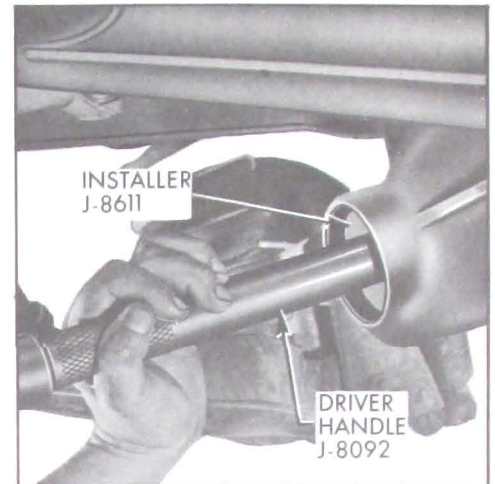

Fig. 6-17—Installing Rear Pinion Bearing Outer Race
1. If rear pinion bearing is to be replaced, install new outer race using Installer J-6197 with Driver Handle J-8092. See Figure 6-17.